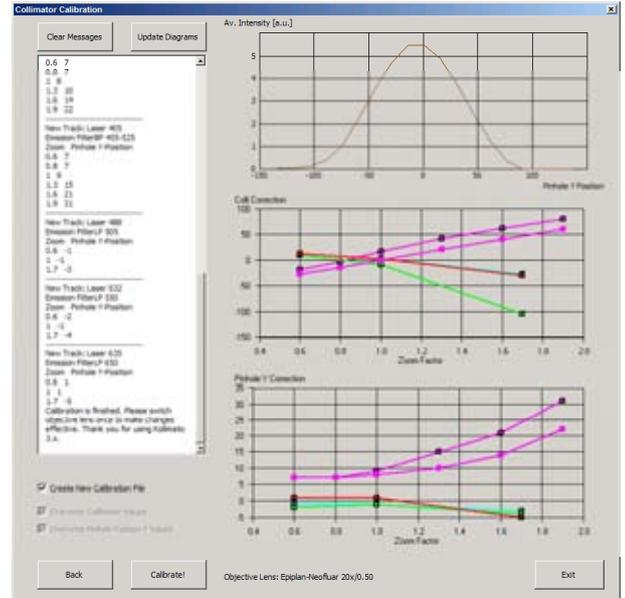

Fig. 4-182 Collimator Calibration window after calibration
- In order to follow the calibration process, just simply click into the **Message** window and; a scroll bar will appear (Fig. 4-182)